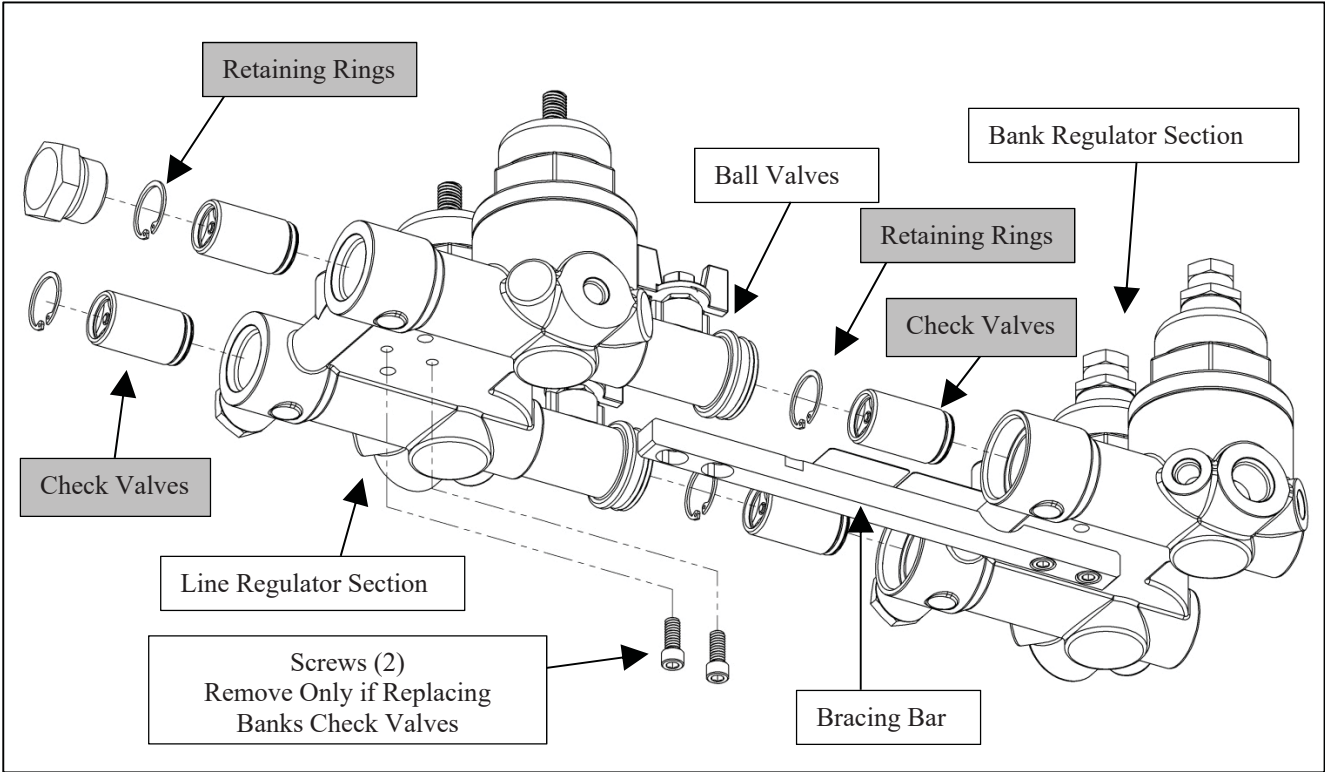

Figure 29: NFPA version HP x HP Manifold Shown.
See Figures 29 and 30.
2. Remove (2) Socket Head Cap Screws connecting Bracing Bar to Line Regulator section.
3. Carefully pull out (2) Ball Valves with Line Regulator section as shown in Figure 29.
3. Using Needle Nose pliers grasp the Guide of Check Valve and pull Check Valve out of the manifold Body. See Figure 29 and 30.